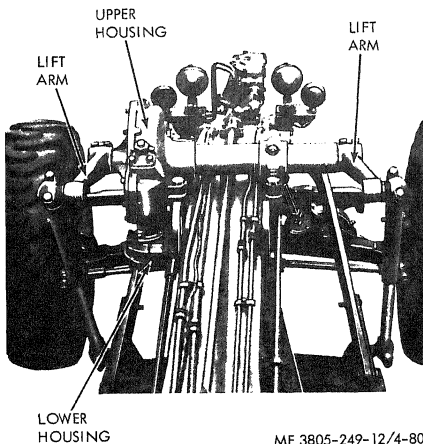

Figure 4-80. Scarifier control housing.
a. Control Housing Replacement. Refer to figure 4-80.
(1) Disconnect the lift links from the control assembly by removing two bolts and lockwashers and the cap at each ball joint.